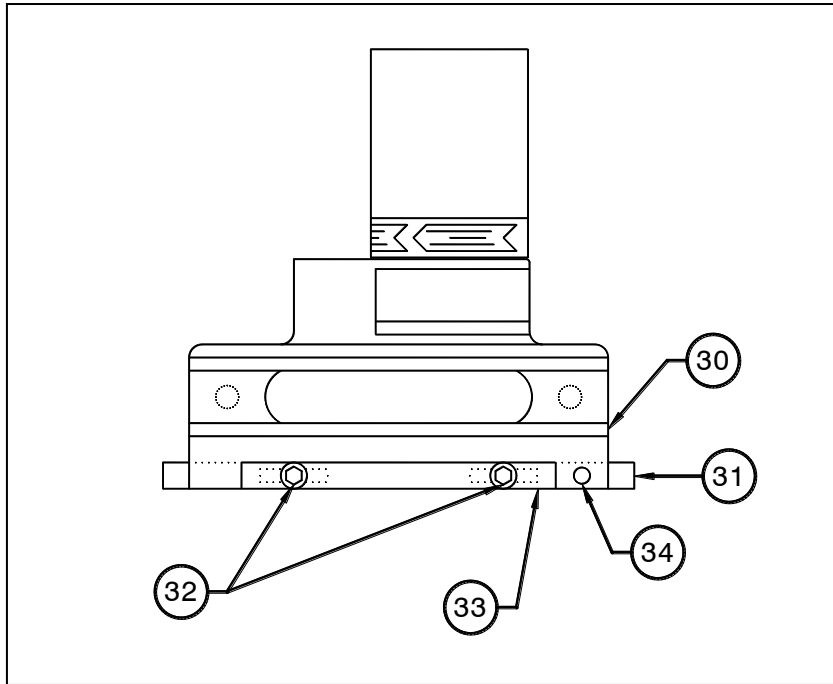

Figure 4.7h
- b. Referring to Figure 4.7h, run a bead of sealant Ultra Blue RTV-Silicone around the pin slot in the drive cover. Install the mounting plate (31), using the capscrews provided, centering the slot in the mounting plate (31) over the slot in the drive cover. Torque the capscrews to 50-60 ft. lbs.
- d. Adjust the drive control by sliding it until the alignment hole in the drive control housing lines up with the matching hole in the mounting plate. Refer to Figure 4.7h. The drive control pointer should indicate "zero". Install the alignment capscrew (34) in the alignment hole(s). Then, secure the drive control mounting capscrews (32).